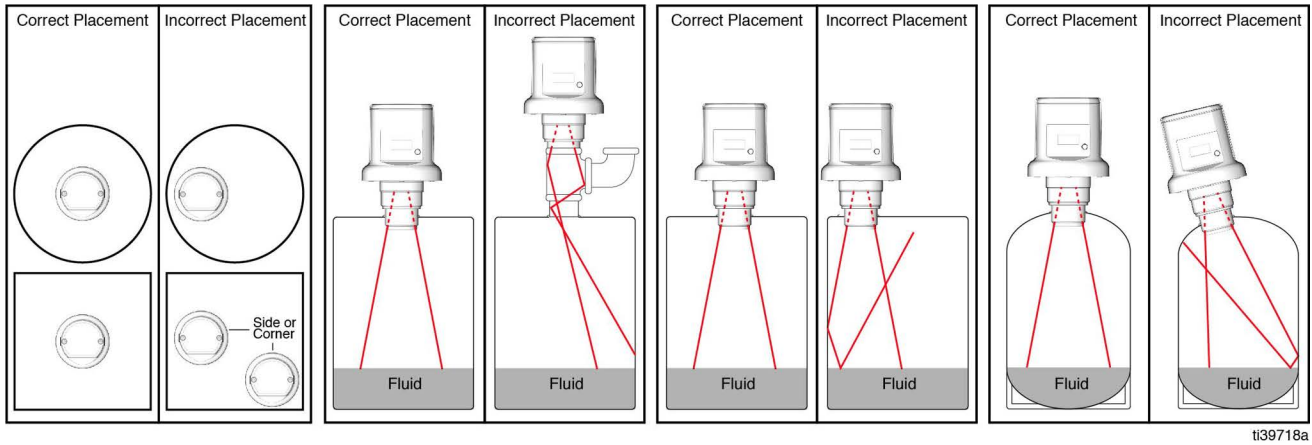

FIG. 3
1. Select a flat area on the top of the tank located towards the center (FIG. 3).